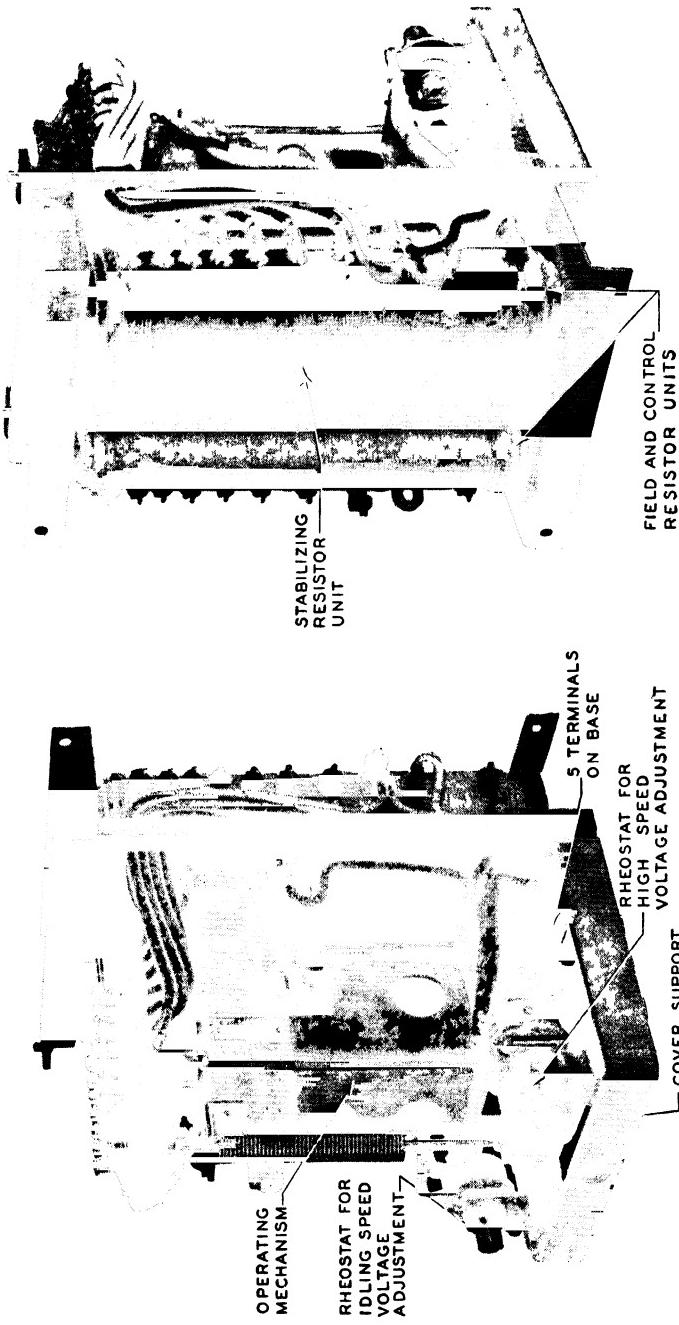
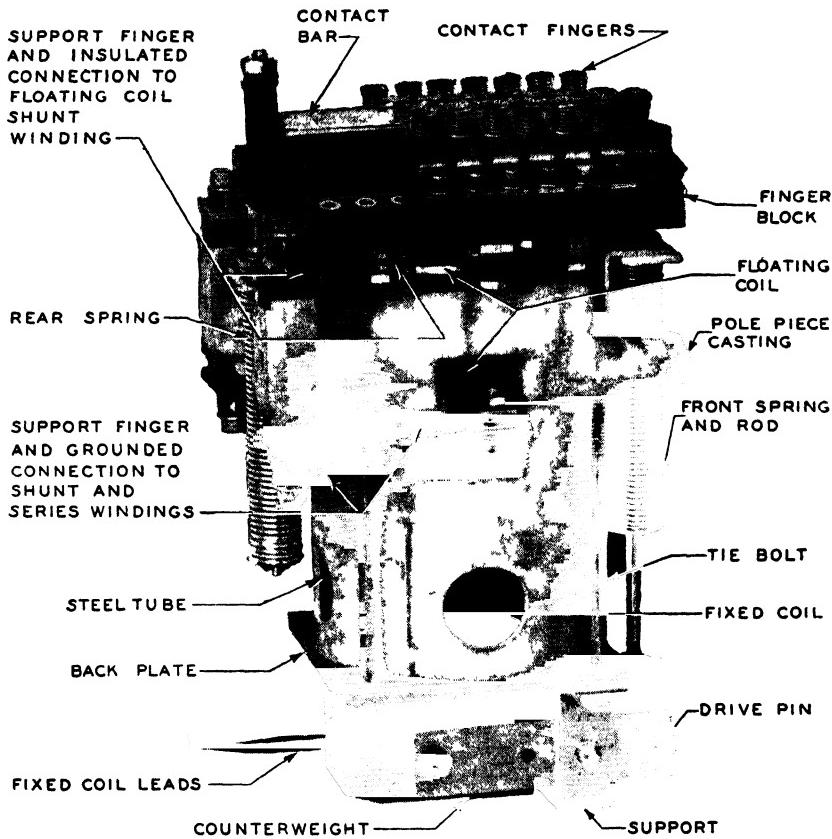
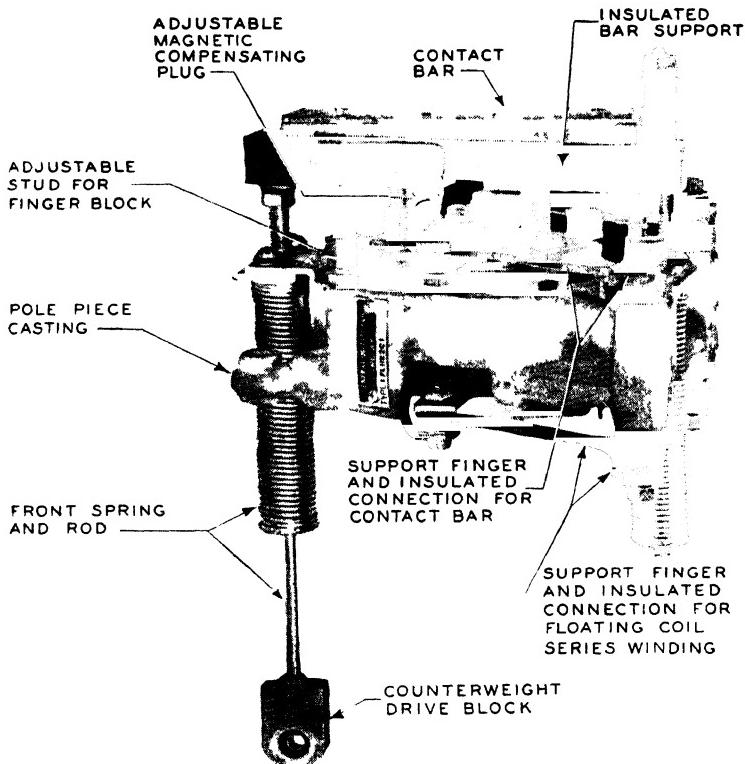
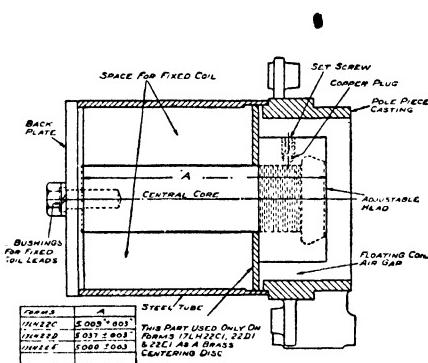

Fig 28 Voltage Control Relay for Auxiliary Generator,
Fig. 29 Operating Mechanism of Voltage Control Relay for Auxiliary Generator
Fig. 30. Floating Coil and Supports of Voltage Control Relay for Auxiliary Generator
Fig. 31. Magnetic Structure of Voltage Control Relay for Auxiliary Generator
*Description.* Fig. 28 shows the assembled relay, Fig. 29 the operating mechanism, Fig. 30 the floating coil and supports, and Fig. 31 a cross section view of the magnetic structure. Internal connections are made with asbestos covered solid copper conductors.
After such removal of a bar or finger, check the sequence of the gaps as the floating coil moves in or out. See Fig. 31 for details.
In case the core adjustment is disturbed, it should be reset at the dimensions shown in Fig. 31.